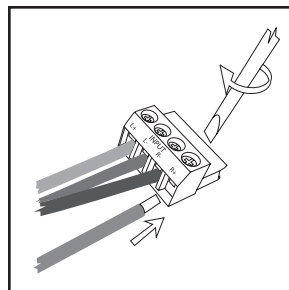

Figure 4
- Insert each wire from the amplifier into the proper L+, L-, R+ or R- input terminal and use a small screwdriver to tighten each screw; see Figure 4. Make sure to observe proper polarity for each connection.
- Insert each wire from the speakers into the proper L+, L-, R+ or R- output terminal and use a small screwdriver to tighten each screw; see Figure 4. Make sure to observe proper polarity for each connection.